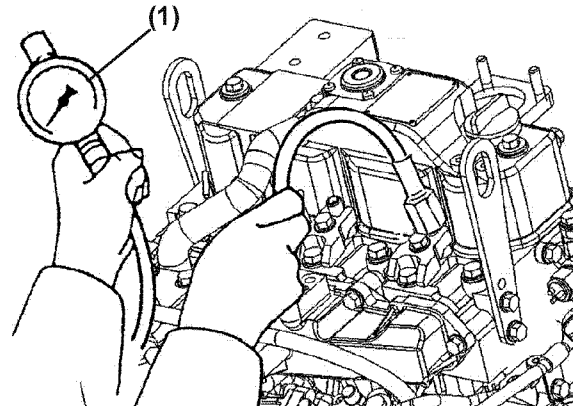
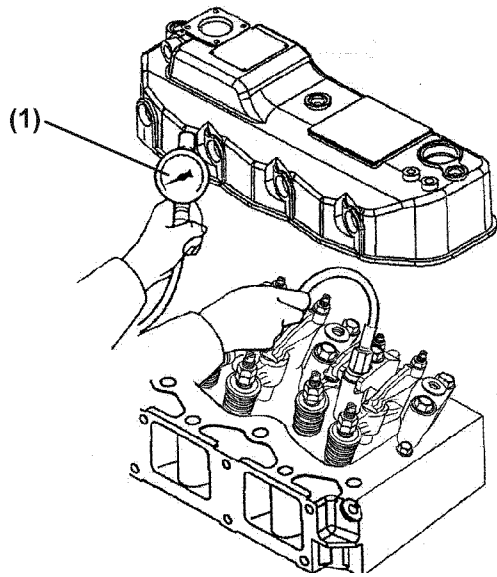

Figure 15-1
Figure 15-2
6. Before installing the compression gauge ((**Figure 15-1, (1)**) 2 valve engine, (**Figure 15-2, (1)**) 4 valve engine) adapter, crank the engine with the stop solenoid disconnected for a few seconds to clear the cylinder of any residual fuel.